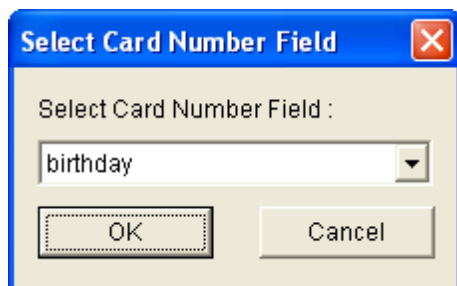

Figure 4-7
- **Change Card Number Field:** Change the previous setting of the Card Number field (see Figure 4-7).